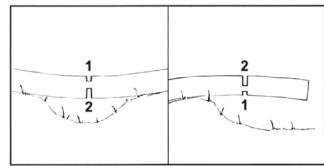

Fig. 1
**Warning:** If the tree is under tension, the guide plate may be pinched. The user will lose control of the chain saw, resulting in serious injury. (Figure 1)
- First cut a force-relief groove from the taut side (1), and then cut it on the side that prevents loosening (2).